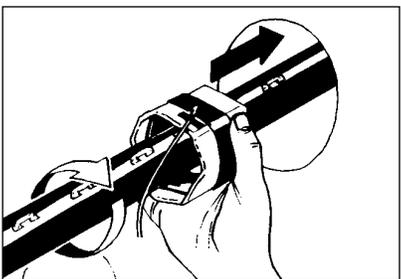

Figure 8
6. Wrap the TDUX duct seal around the cable and slide completely into the duct. Be sure that filling tube faces out of the duct and center cable in duct prior to inflation, if possible. *(Figure 8)*